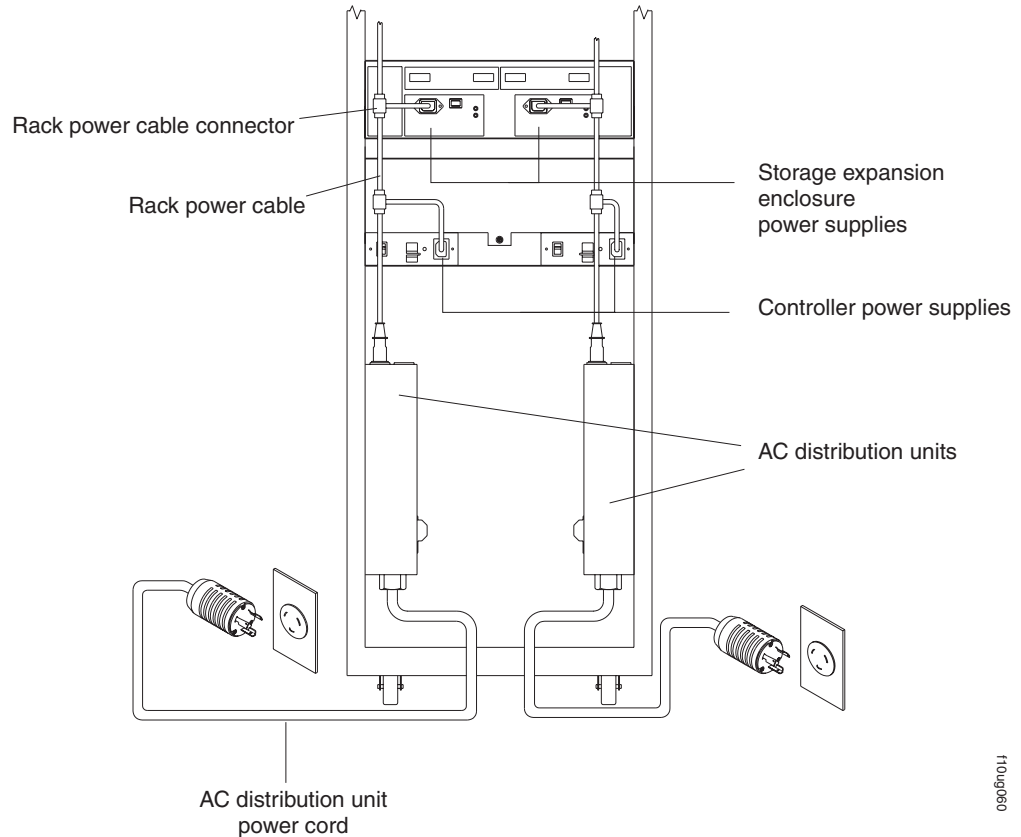

Figure 56. Redundant AC power connections to controllers and storage expansion enclosures
See Figure 56 for an example of redundant power cabling.
- **DS4100 base storage server only:** To maintain power redundancy, plug the storage server's right and the left power supplies into two independent external power circuits through ac distribution units inside a rack cabinet or directly into external receptacles. Similarly, the right and left power supplies of the DS4000 storage expansion enclosures attached to the DS4100 should be plugged into the same two independent external power circuits as the DS4100. This ensures that the DS4100 and all its attached storage expansion enclosures will have power if only one power circuit is available. In addition, having all the right or all the left power supplies plug into the same power circuit will enable the components in the storage subsystem to power on simultaneously during an unattended restoration of power. See Figure 56 on page 62 for an example of redundant power connections.